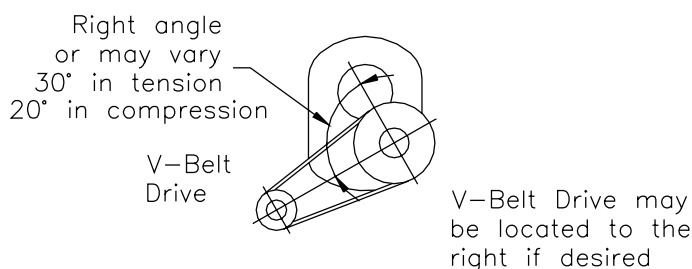

Figure 3 - Angle of V-Drive
5. If not using a Dodge Torque-Arm motor mount, install motor and V-belt drive so belt will approximately be at right angles to the centerline between driven and input shaft (see Figure 3). This will permit tightening the V-belt with the torque arm.